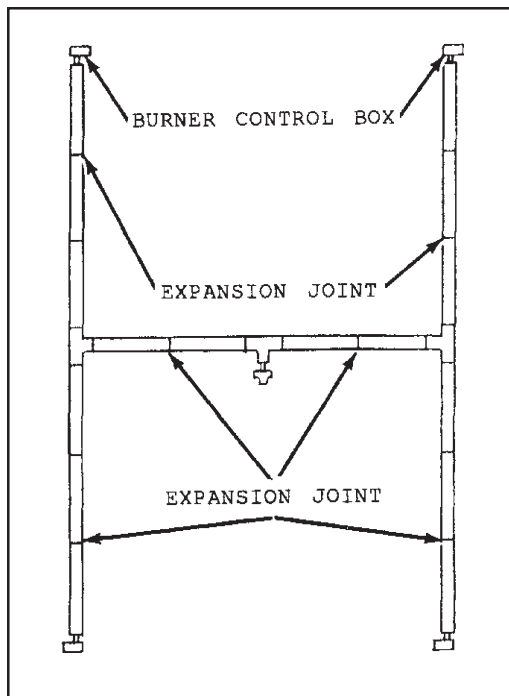

Figure 2.14
**Note:** Leave an expansion joint in each run of reflector, the preferred location is between reflector one and two. (see Figure 2.14).